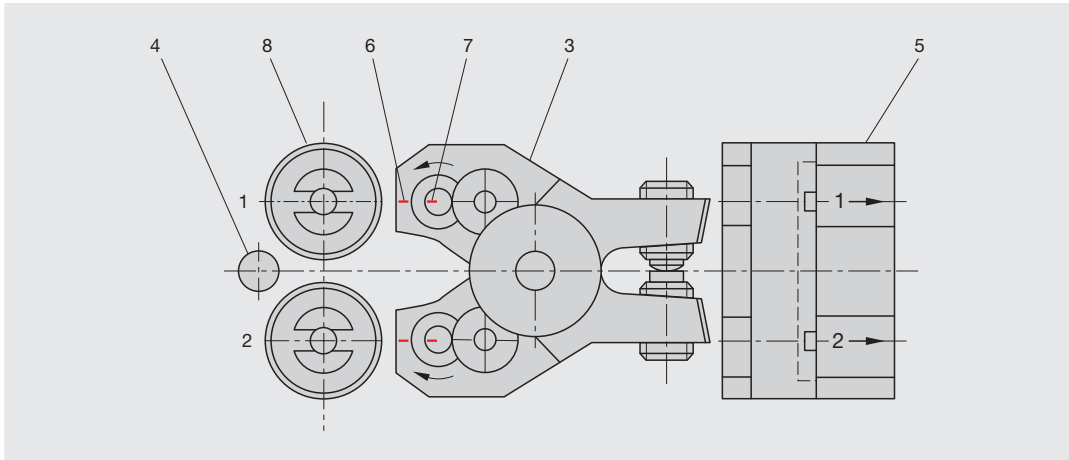

Fig. 9: Mounting of rolls
The thread rolls have a defined position on the rolling head. The rolling head (3) is marked on the front end with number 1 on the upper side and number 2 on the lower side (see Fig. 9). The thread rolls (8) are marked on the claw side with number 1 and 2. Roll number 1 has to be mounted in the hinge arm, which is also marked with number 1 on the front end. When mounting the roll, make sure that number 1 on the roll is facing towards the outer side of the head or the workpiece (4). Roll number 2 has to be mounted in the rolling head side marked with number “2”. Number 2 on the roll must also be facing towards the outer side of the head or the workpiece (4). Both numbers 1 and 2 on the rolls must be facing towards the outer side of the head.
Insert the bushings (ET-1)2 into the thread rolls. Slide the roll marked with number “1” onto the hinge side on the pinion claw (ET-8) marked with number 1, making sure that number “1” on the roll is facing towards the workpiece (4), (see Fig. 9). Also apply a coat of molybdenum sulfide grease to the axis (ET-3) and insert it from the gear unit side (5) into the thread roll hole. Slide the washer (ET-15) between the roll and the narrow rolling head arm side. Slide the axis up to the end stop. In the 0 position, the slot (7) on the axis – viewed from the gear unit arm side – must be aligned with the line (6) on the gear unit arm. Firmly clamp the axis with the cap screw (ET-25). Proceed in the same way to mount thread roll 2.
After thread roll number 1 has been mounted make sure that it is no longer rotated. Ensure that both numbers are facing towards the workpiece, see Fig. 9.